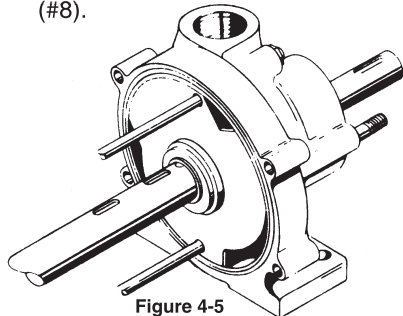

Figure 4-5
5. Now slide this entire assembly of shaft, impeller, and diffuser onto the guide rods (#18) and into the cover (#1IN).(refer to figure 4-5) The diffuser should fit flush. The original diffuser vane orientation is preferred, but either guide rod hole may be up. The chamfer around these holes are for two "O" rings (#8).